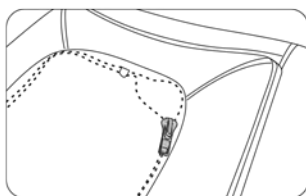

Figure 11
- Zip up the backrest kneading cloth. (Figure 11)